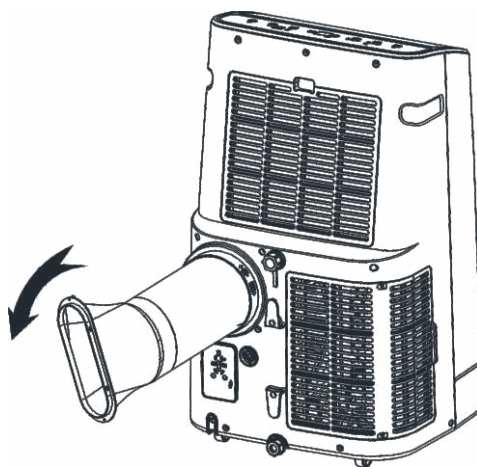

Figure 1
#### 1.1 Install the heat pipe assembly (as shown in Fig.1)
- 2) Insert the heat pipe assembly (the end of the exhaust joint) into the back panel vent slot (push to the left) and complete the assembly (as shown in figure 1).